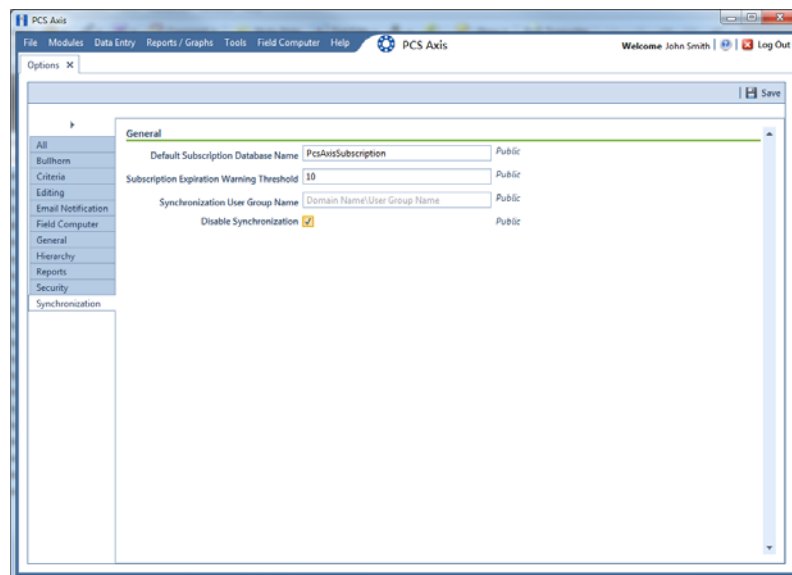

Figure 2-15. Disable Synchronization
- 1 Click **Tools > Options > Synchronization** to open the synchronization property settings window (Figure 2-15).